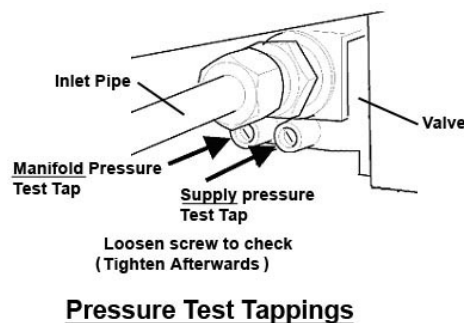
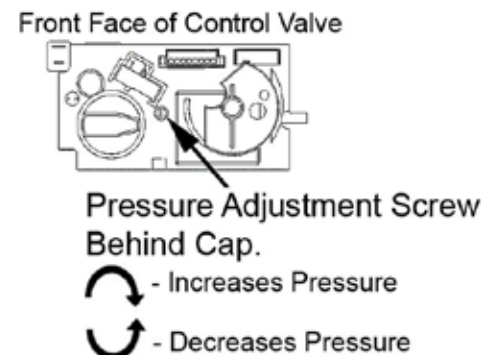

Fig. 5
Fig. 6
6. **Turn on the gas supply and check for leaks** using a soap solution. The minimum and maximum gas supply pressures are shown in the chart and should be verified using the Supply Pressure test tap while the unit is running at full input (see Fig. 5).
7. **Fit a manometer to the manifold pressure test tap** on the valve (see Fig. 5). Light the appliance and **turn the control to full input**. Check for leaks downstream of the valve. Adjust the pressure adjustment screw (Fig. 6) while the appliance is running at full input to produce manifold pressure, as per the chart.